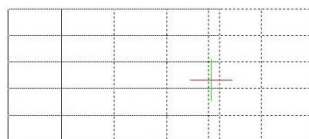

Fig 17
3. Specify the place or distance to drag to (left is positive). (Fig17)